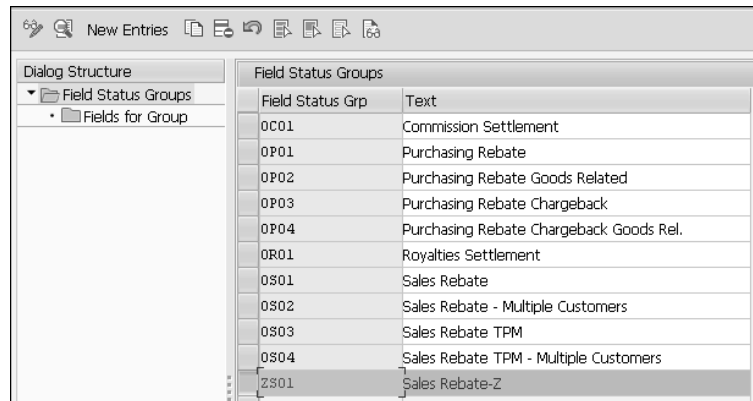
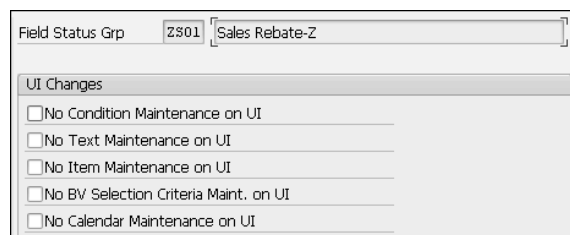

Figure 2.37 Define Field Status Groups
Figure 2.38 Configure Field Status Groups for UI Changes
Select **New Entries** or copy from an existing entry to create a new status group. As an example, we've created field status group ZS01 Sales Rebate-Z in Figure 2.37. Select the field status group, and click on the **Details** icon (magnifying glass) to view or modify the user interface (UI) changes if required. Depending on the usage of the condition contract, **UI Changes** can be used, as shown in Figure 2.38. For example, if the condition contract is created from an external application, and the business requirement is to prevent the data from being changed, then mark the checkboxes for the various options available. If the **No Condition Maintenance on UI** checkbox is marked, for instance, then maintenance of conditions on the UI is disabled. Similarly, if **No Text Maintenance on UI** is checked, then header and item texts are disabled. In addition, if the **No BV Selection Criteria Maint. on UI** is checked, then business volume selection criteria can't be maintained on the UI. In the same way condition contract items and